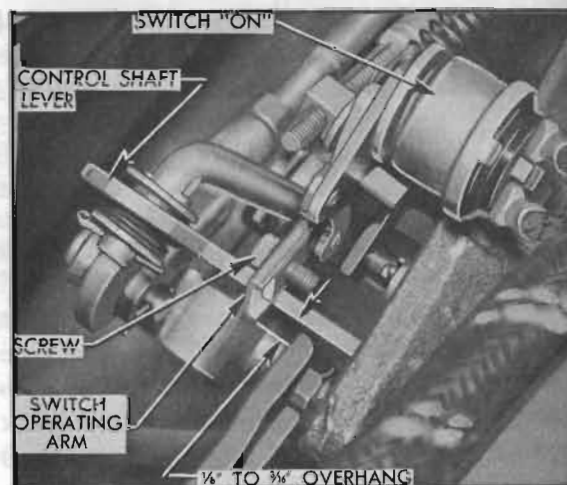

Figure 11-4—Position of Switch Operating Arm in Reverse
3. Loosen hex head cap screw on switch operating arm and adjust length of arm until end of arm extends $\frac{1}{8}$ " to $\frac{3}{16}$ " beyond front edge of control shaft lower lever. See figure 11-4. Tighten switch arm screw securely.